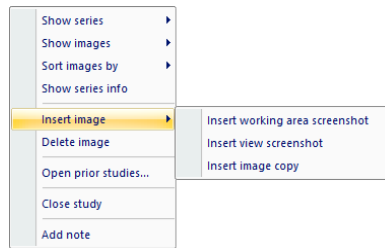

Figure 186 – Context menu of the thumbnails palette
3. Right-click to open the context menu and select the **Insert image/Insert working area screenshot** item (see Figure 186). The image from the current view is then automatically inserted at the end of the target series.
3. Right-click to display the context menu and select the **Insert image/Insert view screenshot** item (see Figure 186). The screenshot of the current view is then automatically inserted at the end of the series.
3. Right-click to display the context menu (see Figure 186) and select the **Insert image/Insert image copy** item (see Figure 186). The image from the current view is then automatically inserted at the end of the series.
2. Right-click to display the context menu (see Figure 186) and select the **Delete image** item. The image is then automatically deleted from the series.